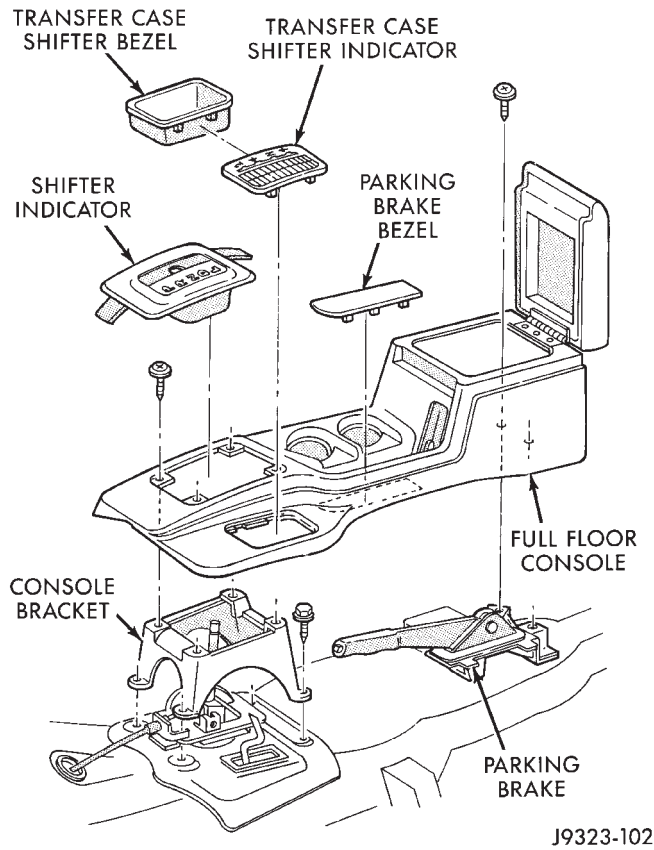

Fig. 7 Full Console Removal
- (1) Disconnect negative cable from battery.
- (2) Remove 2 screws from bottom of center console storage bin (Figs. 7, 8 and 9).